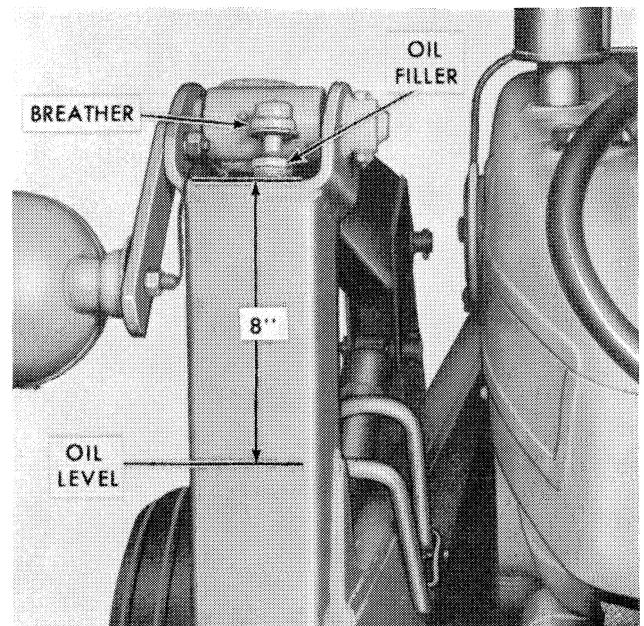

Figure 95
The oil breather cap, Figure 95, should be removed and cleaned in a suitable solvent every 50 hours or more often under dusty conditions.
4. Remove the filter base attaching bolts from the bottom of the post and remove the filter assembly, Figure 95.
5. Remove the filter attaching bolt and bypass adapter shown in Figure 95. Discard the oil filter element and gasket.